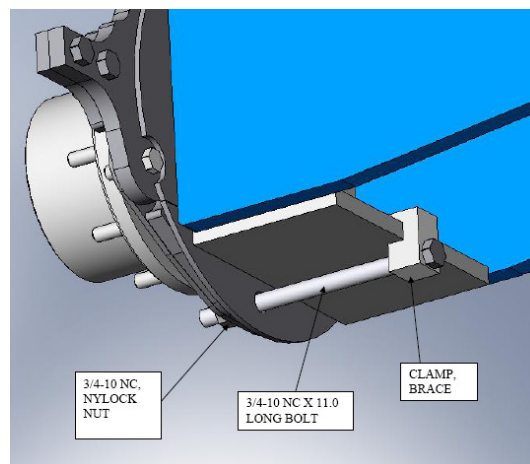

Fig. 9
- f. Install the 3/4-10 NC x 11.0 long bolt , 3/4-10 NC Nylock nut and Clamp Brace per **Fig. 9**
- g. Bolt the 5/8 Hammer shims to the Hammer Limiter using (2) 3/4 NC x 1.50 Gr. 8 bolt and (2) 3/4 Flat washers Gr.5 per shim. **Note:** Some systems do not have the washers and the 3/4 -10 NC x 1.50 bolts; they will have the 3/4-10NC x 1.25 bolts and no washers.